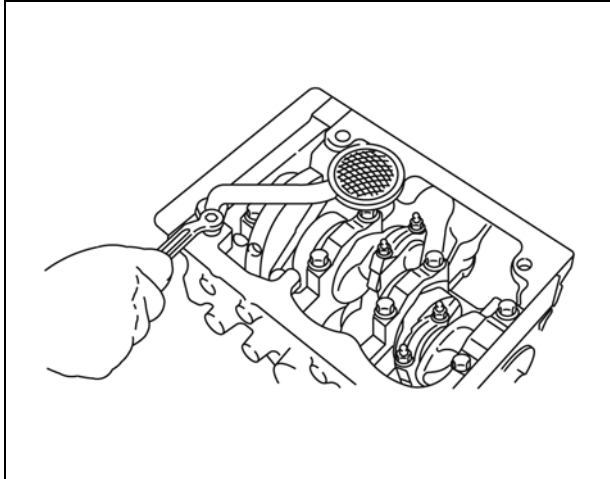

Figure 5
8. Remove oil pick-up tube and strainer (Figure 5). Discard gasket.